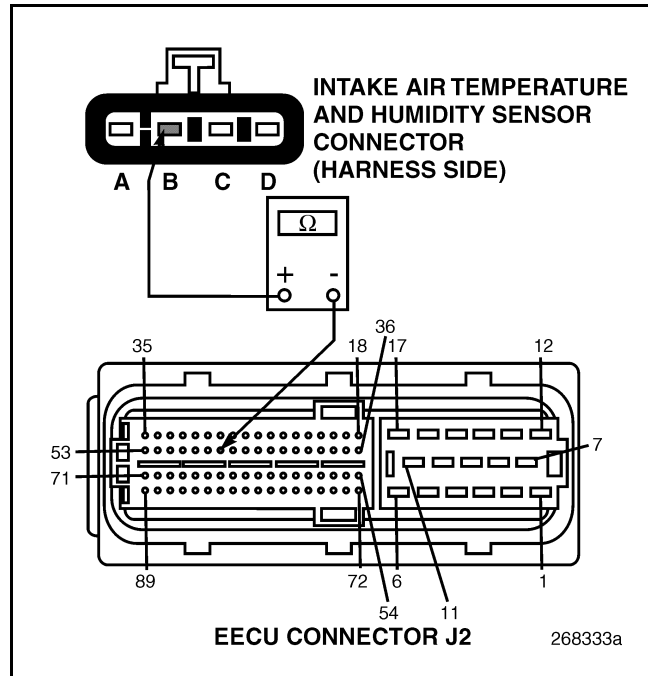

Figure 335
4. Check for continuity between IATH Sensor harness connector pin B (signal line) and EECU harness connector J2 pin 47 (see Figure 335).